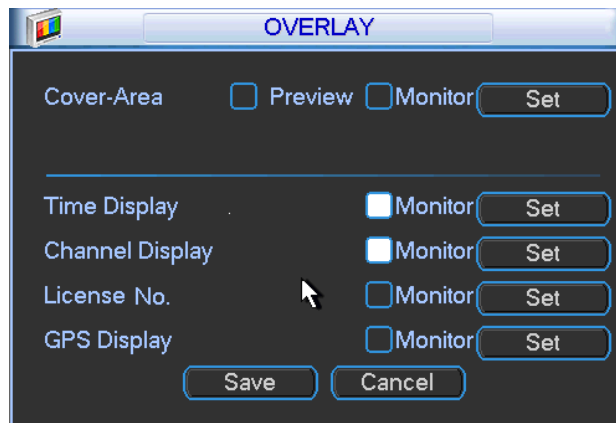

Figure 4-28
- Overlay: Click overlay button, you can see an interface is shown in Figure 4-28. Please note the following overlay titles can not be in the same position. **Please note only the unit of GPS module supports GPS overlay function.**